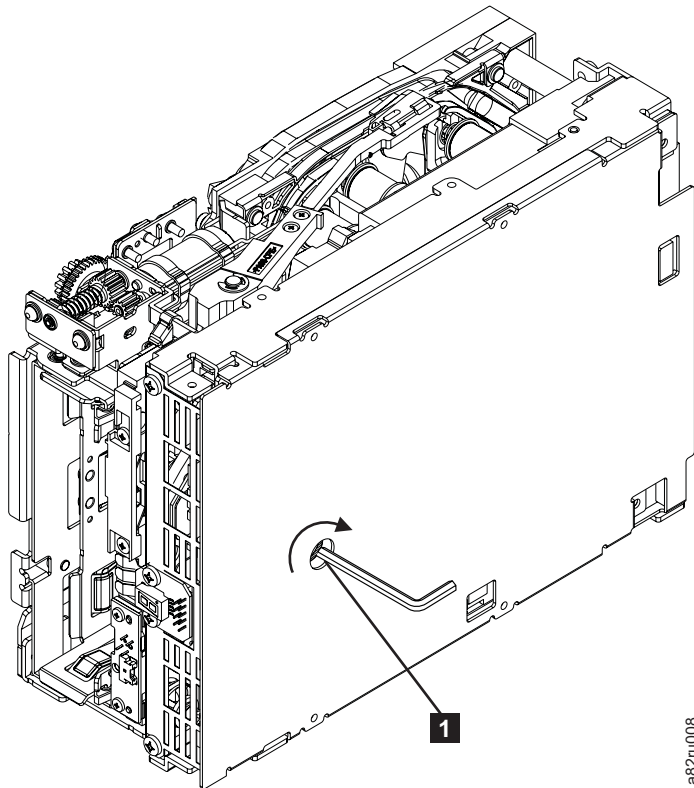

Figure 129. Using hex wrench to rewind tape into cartridge
- ___ 3. From the bottom of the drive, locate the access hole (**1** in Figure 129).
Note: Be sure to keep tension on the tape as the LBA is drawn into the cartridge by using a hex wrench as shown in Figure 129 on page 289.